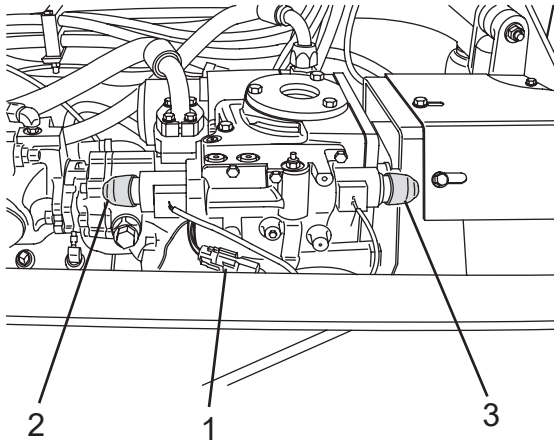

Figure 5
14. **For Traditional Controls with EP (Electric Proportional Controls) Only:** Locate and disconnect the main electrical connector (Figure 5, Item 1) from the charge/discharge coils. Move the connector away from its mating connector.
15. Locate and remove the charge/discharge manual override buttons (Figure 5, Items 2 and 3).